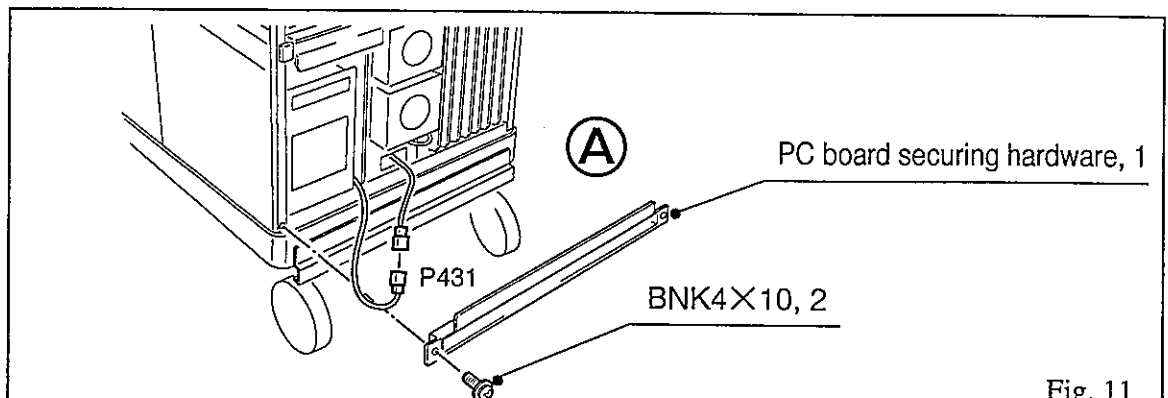

Fig. 11
- ※ Operations (1) below is not required for equipment without color printer rack (MP-FX1700-2).
- (1) Unfasten 2 screws and remove reinforcement pipe. ( Ⓐ in fig.)
- (2) Remove 2 caps in the rear of panel escutcheon. And unfasten 2 screws. ( Ⓑ in fig.)
- (3) Unfasten 2 front screws and open panel escutcheon. Then, remove stay from magic tape and secure stay upright. ( Ⓒ in fig.)
- (4) Unplug all connectors plugged in interface PC board. ( Ⓓ in fig.)
- (5) Remove 2 grounding terminals, with one each screw unfastened. ( Ⓔ in fig.)
- (6) Remove POWER switch cable from clamp. ( Ⓕ in fig.)
- (7) Unfasten 2 screws and remove PC board securing hardware. Then, disconnect POWER switch cable from power supply unit. (A in fig. 11)